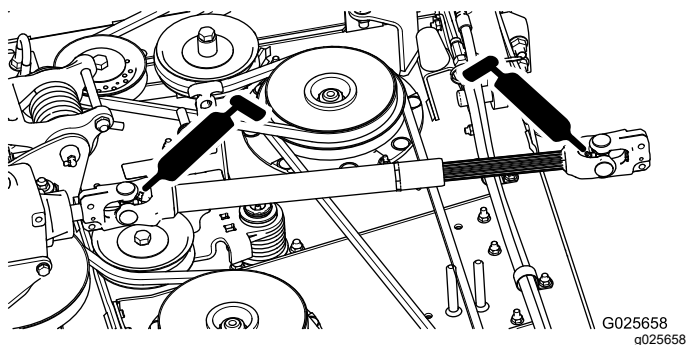

Figure 22
- PTO drive shaft (2) (Figure 22)